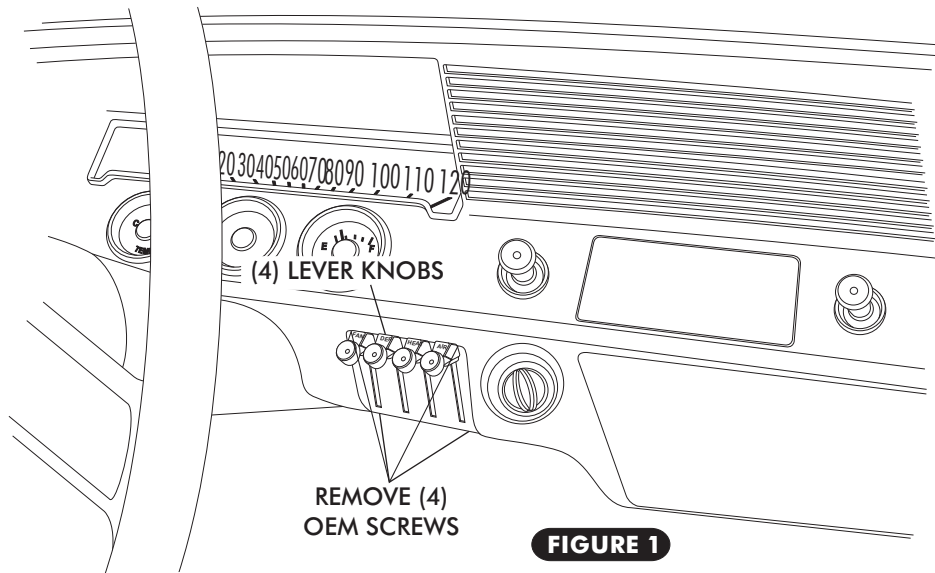

FIGURE 1
- REMOVE THE (4) OEM LEVER KNOBS AND THE (4) OEM MOUNTING SCREWS FROM INSTRUMENT PANEL OF DASH. SEE FIGURE 1 BELOW.